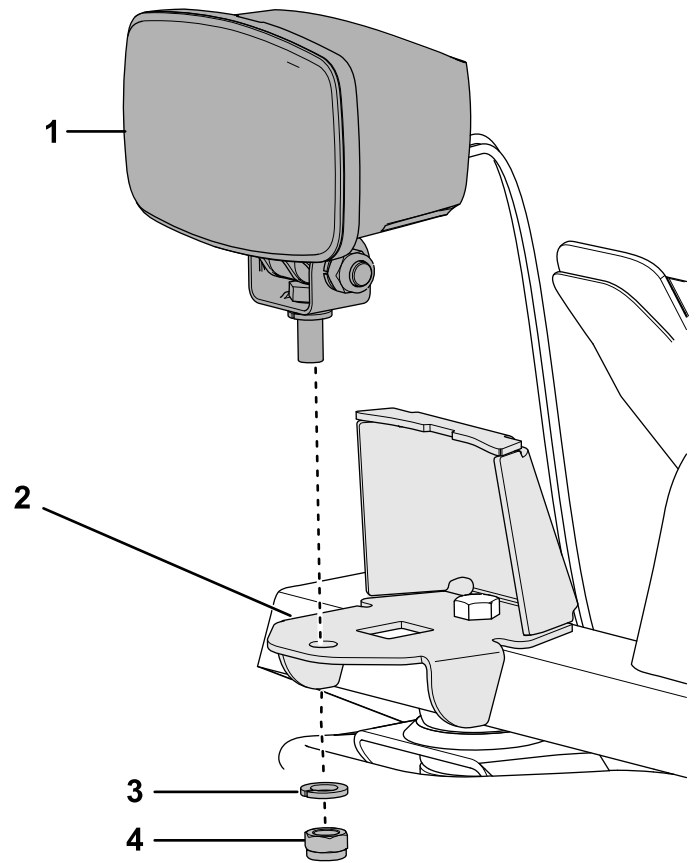

Figure 15
4. Assemble the capscrew (12 mm) to the light mount (Figure 15) with the locknut (12 mm) and lock washer (12 mm).